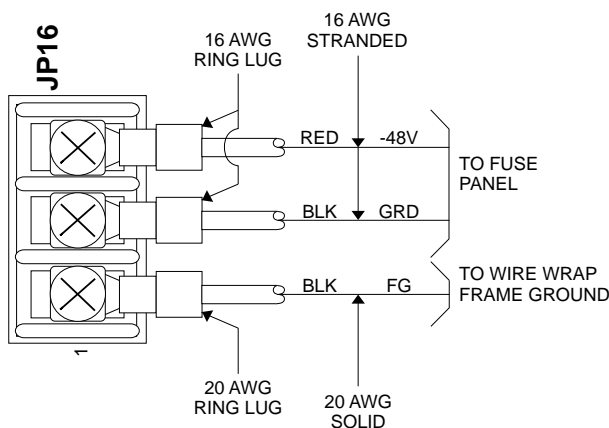

Figure 12. Power Connections on JP16
The BR1/10x Chassis provides a three-position terminal strip, JP16, for each backplane (see Figure 12). Ring lug terminations are recommended for connecting to JP16. Insert a -48V office battery supply lead into terminal 3 (-48I) of JP16. Insert the battery return into terminal 2 (-48R). Insert the frame ground, or chassis ground, into terminal 1 (FG).